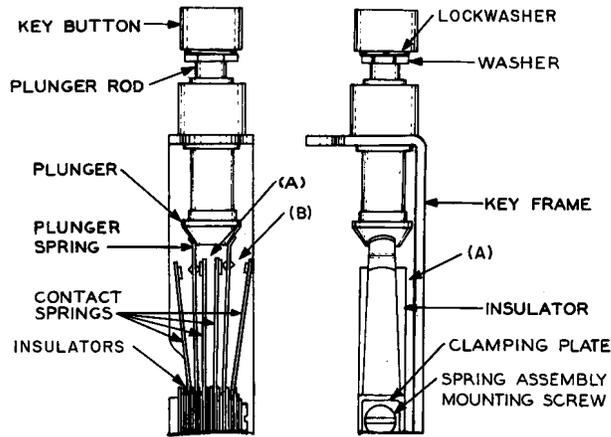

Fig. 3—547-Type Key Equipped with 3-Piece Plunger
(a) Fig. 3(A) and 4—There shall be a clearance between springs designed never to make contact and between any spring and the frame whether in the operated or unoperated position of the key of:
(a) Fig. 3(B)—Except as specified below, the separation between any pair of contacts normally open or between any pair of contacts that are opened when the key is operated shall be: